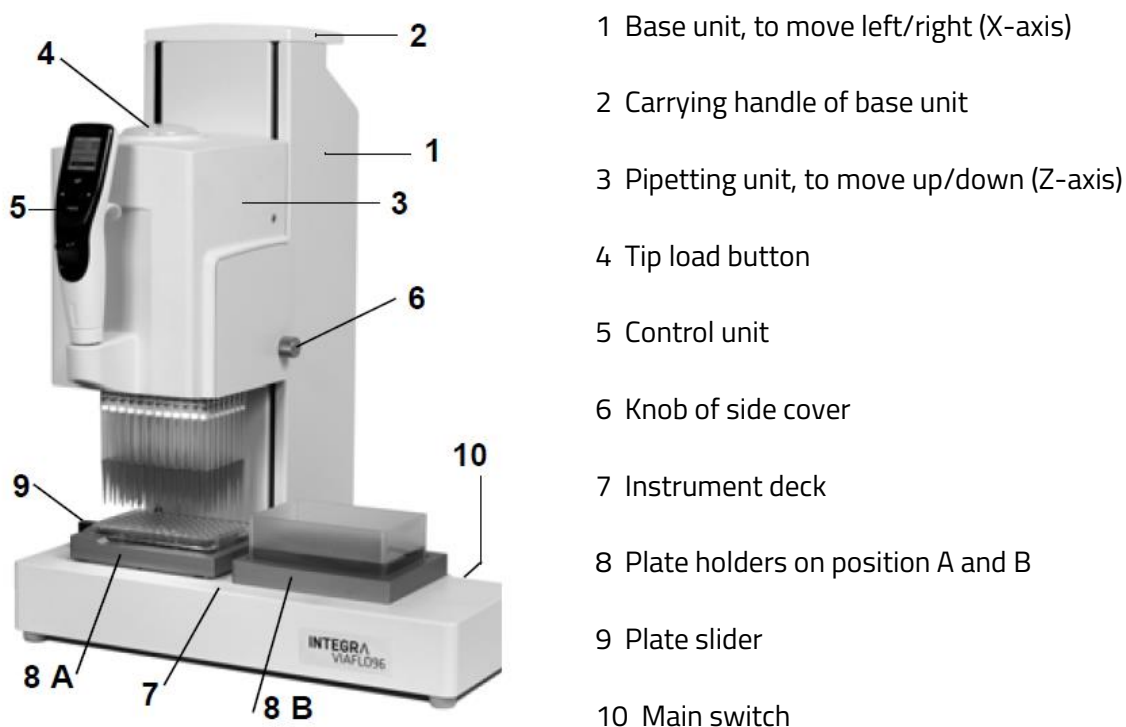

Figure 5: VIAFLO 96/384 Device
The unique design of the Akura™ 384 Plate enables the use of multi-channel pipetting systems for parallel liquid handling without the risk of spheroid loss. We recommend the INTEGRA VIAFLO 96/384 system as it is a compact, easy-to-use, semi-automated pipette system that can be configured for 384 channels (Figure 5) for increased productivity.
2. Place waste reservoir or plate for samples in position 8B (Figure 5), in the plate holder on the right.
3. Position the Akura™ 384 Plate onto a standard multiwell lid with the opening face down to allow manual positioning of the plate with a slight horizontal offset (1-2 mm) towards the “bottom of the plate” with respect to the tips. Move the plate and lid to position 8A (Figure 5), in the plate holder on the left.